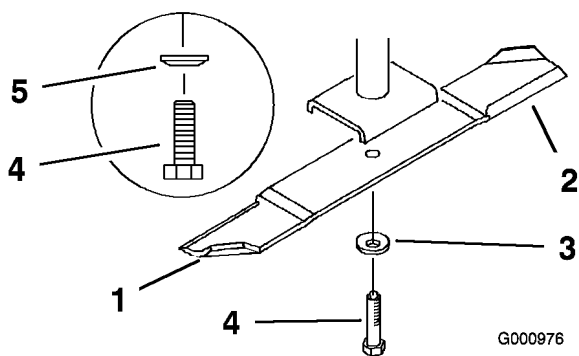

Figure 77
2. Remove the blade bolt, spring disk and blade from the spindle shaft (Figure 77).
(Figure 77). Repeat this procedure until the blade is balanced.
1. Install the blade onto the spindle shaft (Figure 77).
2. Install the spring disk and blade bolt. The spring disk cone must be installed toward the bolt head (Figure 77). **Torque the blade bolt to 85-110 ft-lb (115-150 N·m).**